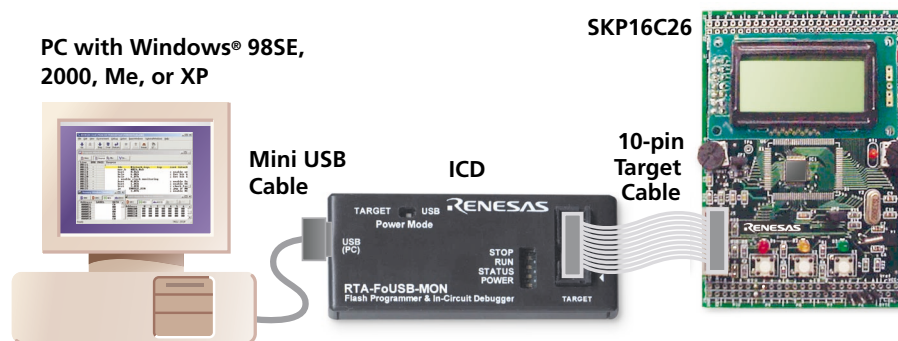

Figure 2. SKP16C26 System Connectivity
- a) Connect the SKP16C26 to the PC as shown in Figure 2 (described in detail in steps 3a) and 3b) above).